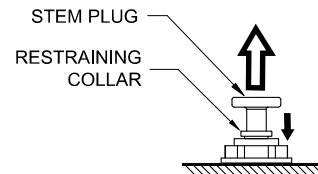

FIG.5
- 9)** To remove stem plug push restraining collar squarely against bulkhead fitting. Hold collar against fitting when pulling on plug to remove. FIG.5